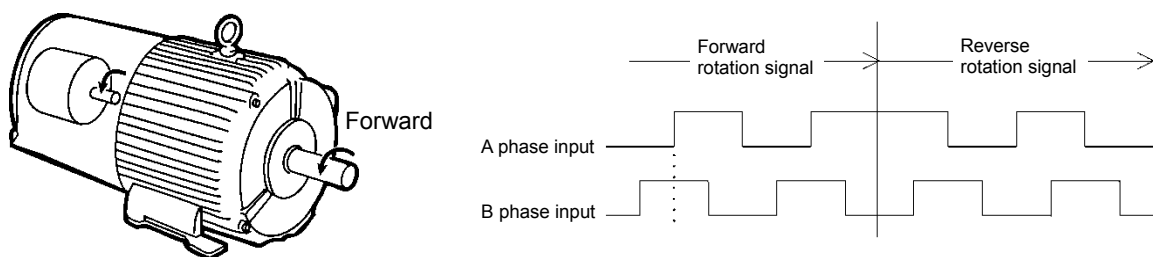

Figure 4.8-2 Forward Rotational Direction of Motor and PG (Pulse Generator)
Fuji regards the CCW as the forward rotation direction viewed from the motor output shaft as shown in Figure 4.8-2.
During rotation in the forward direction, the PG output pulse forms a forward rotation signal (B phase leads by 90 degrees) as shown in Figure 4.8-2, and during rotation in the reverse direction, a reverse rotation signal (A phase leads by 90 degrees).
**Note** In the case of using motors which comply with IEC standard, their rotation directions are opposite to that in Figure 4.8-2.